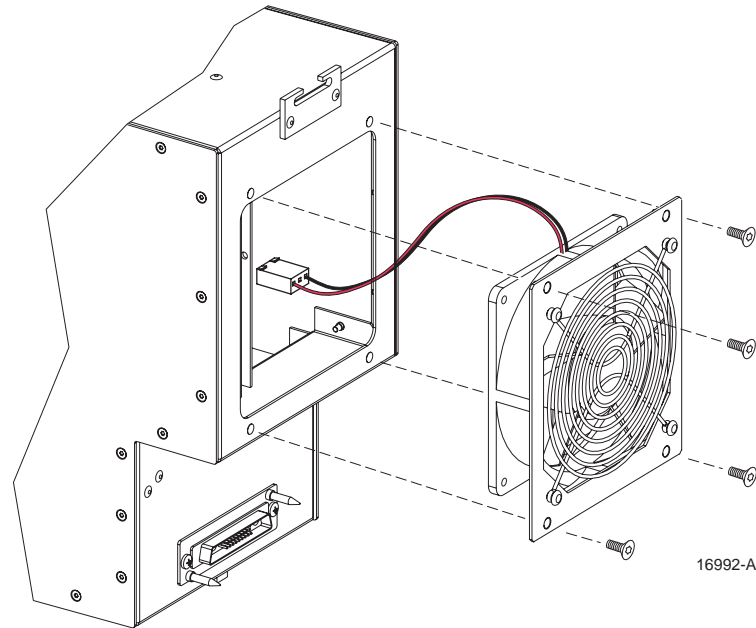

Figure 5-5. STM Fan/Grill Assembly Removal
6. Remove the four pan-head screws (requires TORX screwdriver with T10 bit) that secure the fan/grill assembly to rear side of the STM enclosure as shown in Figure 5-5. Save screws for reuse.
13. Secure the fan/grill assembly to the back of the enclosure (see Figure 5-5) using the four pan-head screws removed in step 6. Do not overtighten the screws. The screw threads can be easily stripped if too much torque is used to tighten the screws.